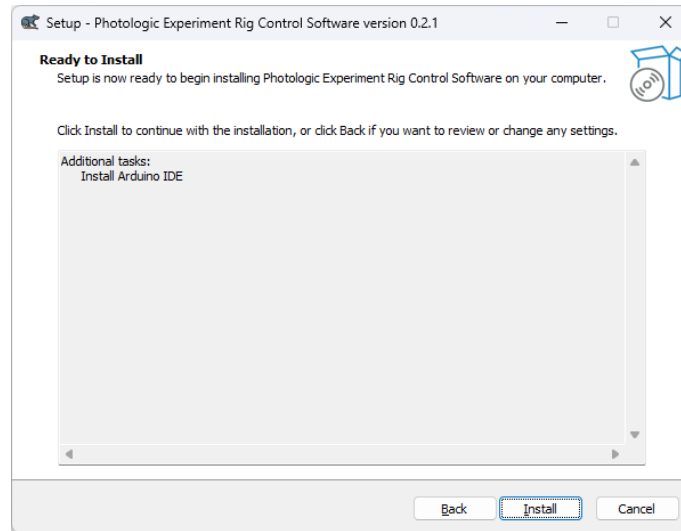

Figure 5: Confirm the Packages and Perform Installation.
3. **Click Next and Verify** - Click next, then verify the additional packages to be installed. If you checked the box, the Arduino IDE installer should be listed here as in Figure 5. If not this will just be an empty page.